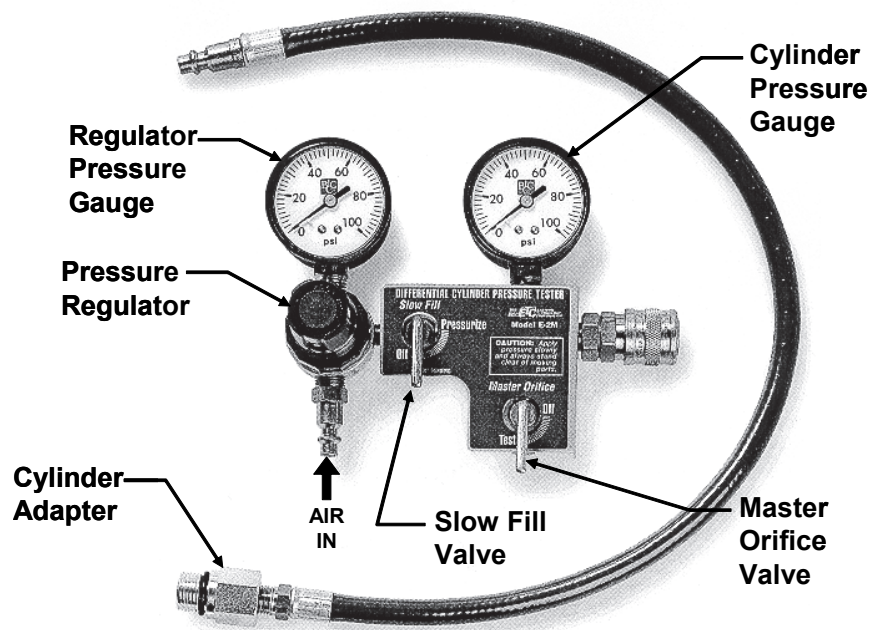

Figure 6-66. Model E2M Differential Pressure Tester
- Eastern Technology Corporation Model E2M (Figure 6-66) Cylinder Differential Pressure Tester. This Differential Pressure Tester incorporates a 0.040 Master Orifice Tool.
Perform this procedure to prepare the Model E2M Differential Pressure Tester (Figure 6-66) for use and establish the acceptable cylinder pressure leakage limit.